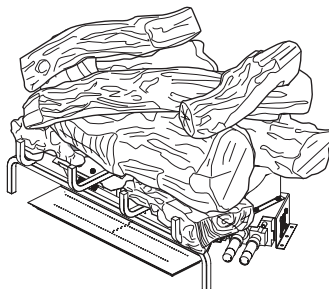

Figure 29 - Final Assembly
8. Final Assembly is shown in Figure 29. See Figure 30 for additional views.